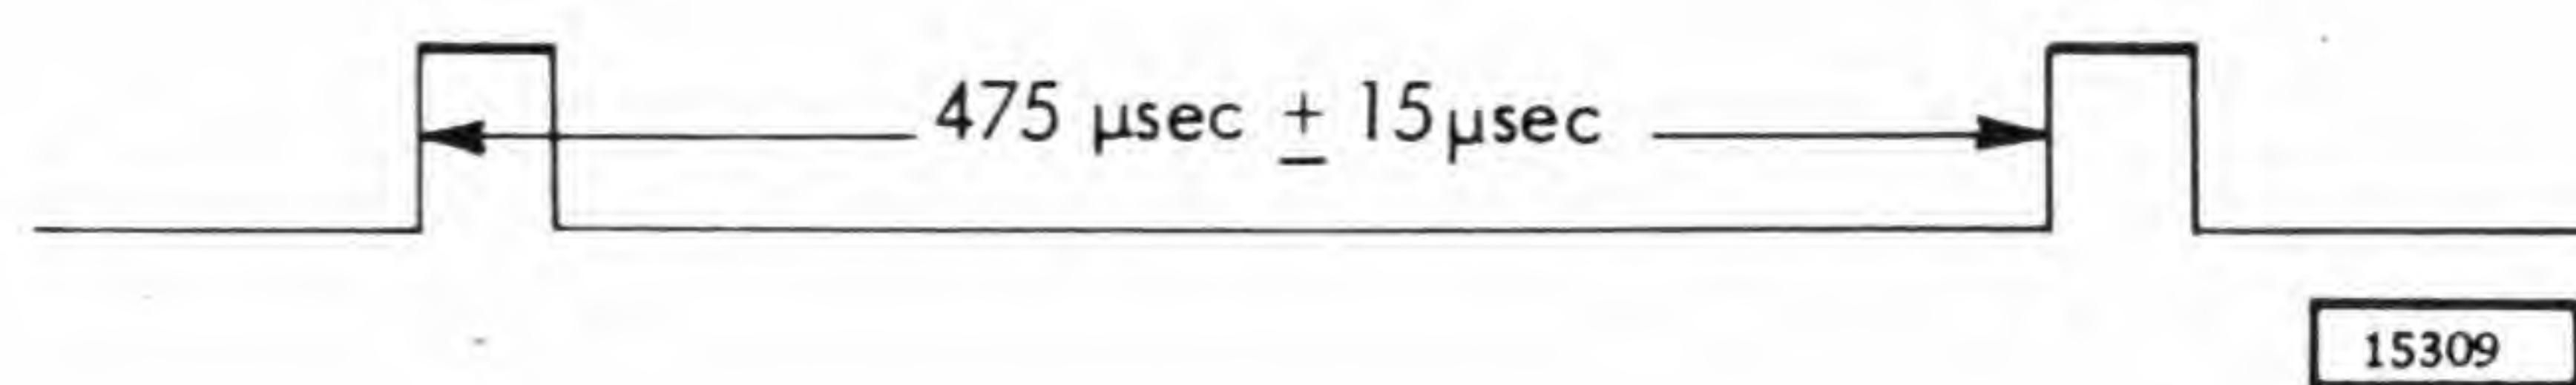

Figure 3-4 Early to Late Index Timing
2. The time between the positive leading edges of the outputs at the early and late index amplifiers should be 475 microseconds, plus or minus 15 microseconds (Figure 3-4). Possible failure of the shaft motor is indicated if this timing is not within these limits.